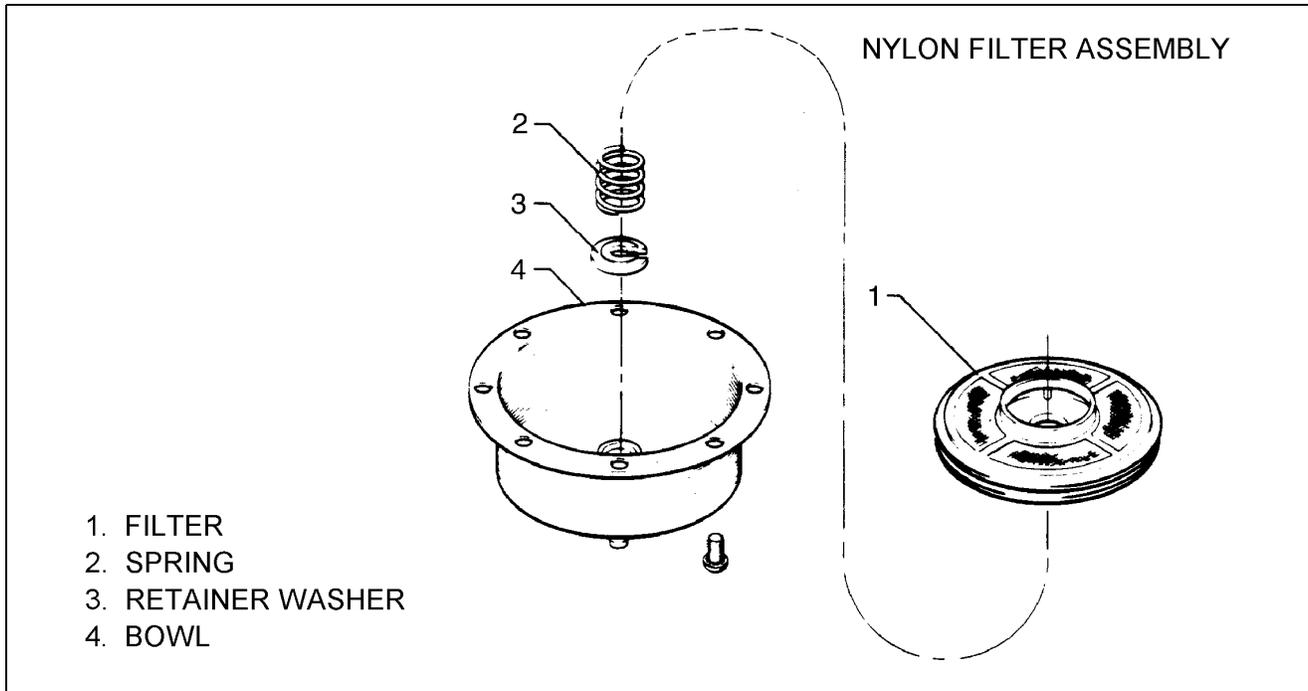

Figure 28-4. Fuel Filter Assembly
2. Cleaning Filter Assembly (Refer to Figure 28-4)